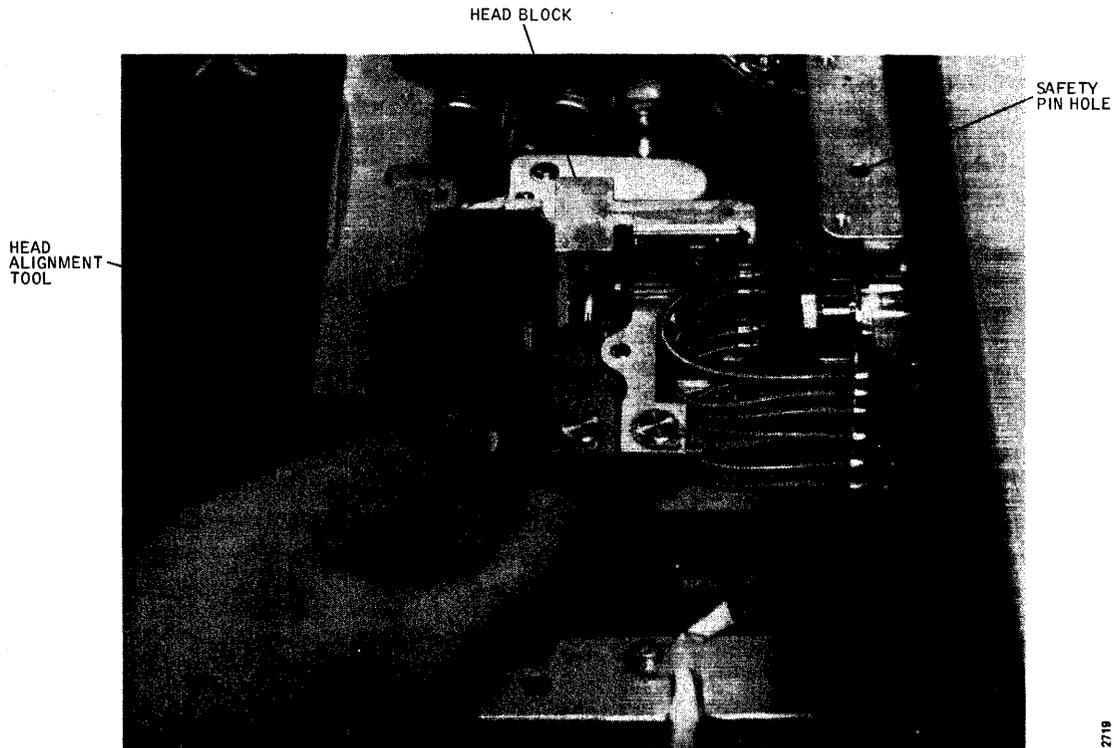

Figure 4-1. Head Alignment Tool in Use
14. Remove the carriage and way cover covering the carriage and heads, and insert the safety pin down through the hole in the top plate of the cam tower and into the head carriage assembly. See Figure 4-1.